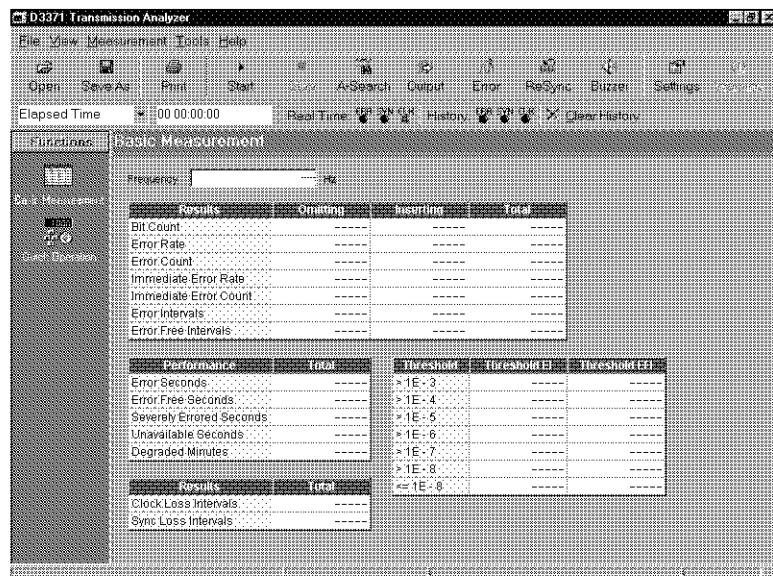

Figure 1-13 Measurement Initialization Screen
1. *The screen display may be different from the one shown in Figure 1-13, depending on the previously saved conditions.*